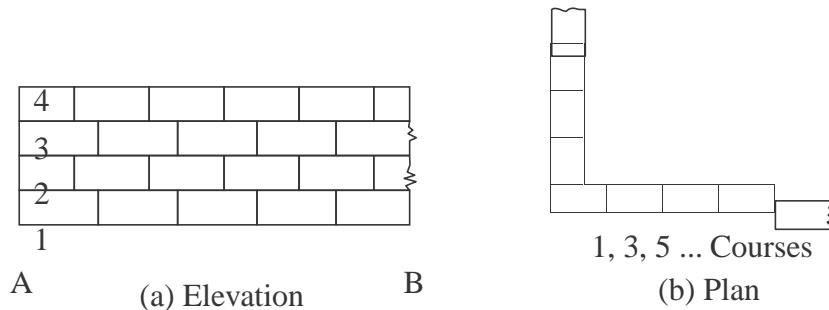

Fig. 2.6.1 Stretcher
1. Stretcher Bond: A stretcher is the longer face of the brick as seen in the elevation. In the brick of size $190 \text{ mm} \times 90 \text{ mm} \times 90 \text{ mm}$, $190 \text{ mm} \times 90 \text{ mm}$ face is the stretcher. In stretcher bond masonry all the bricks are arranged in stretcher courses as shown in Fig. 2.6.1. However care should be taken to break vertical joints. This type of construction is useful for the construction half brick thick partition wall.